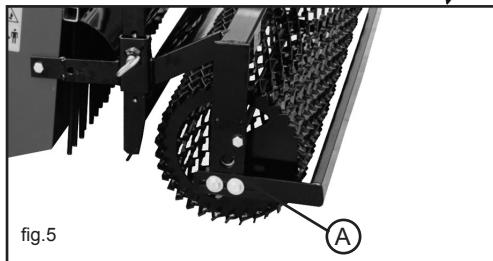

fig.5
2. Grease the roller supports (Fig.5 - Ref.A).